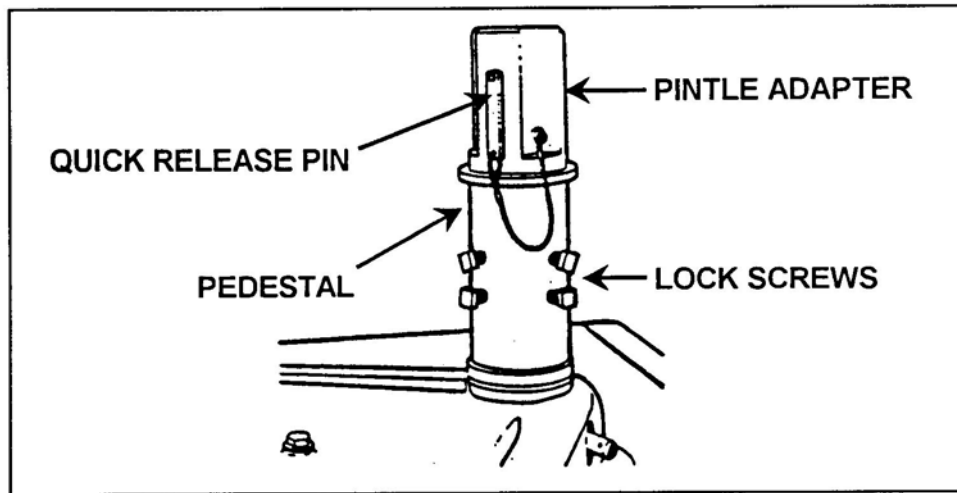

Figure 1. HMMWV Armament Carrier Ring Pedestal
- a. HMMWV armament carrier ring pedestal (Figure 1).